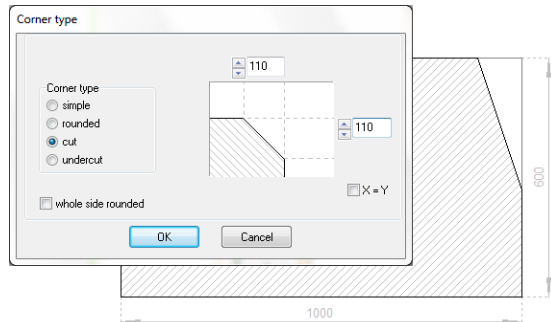

Fig. 213 – cut corner
- enter the appropriate cut values (if both values are to be identical, select  $x=y$ ) (Fig. 213);